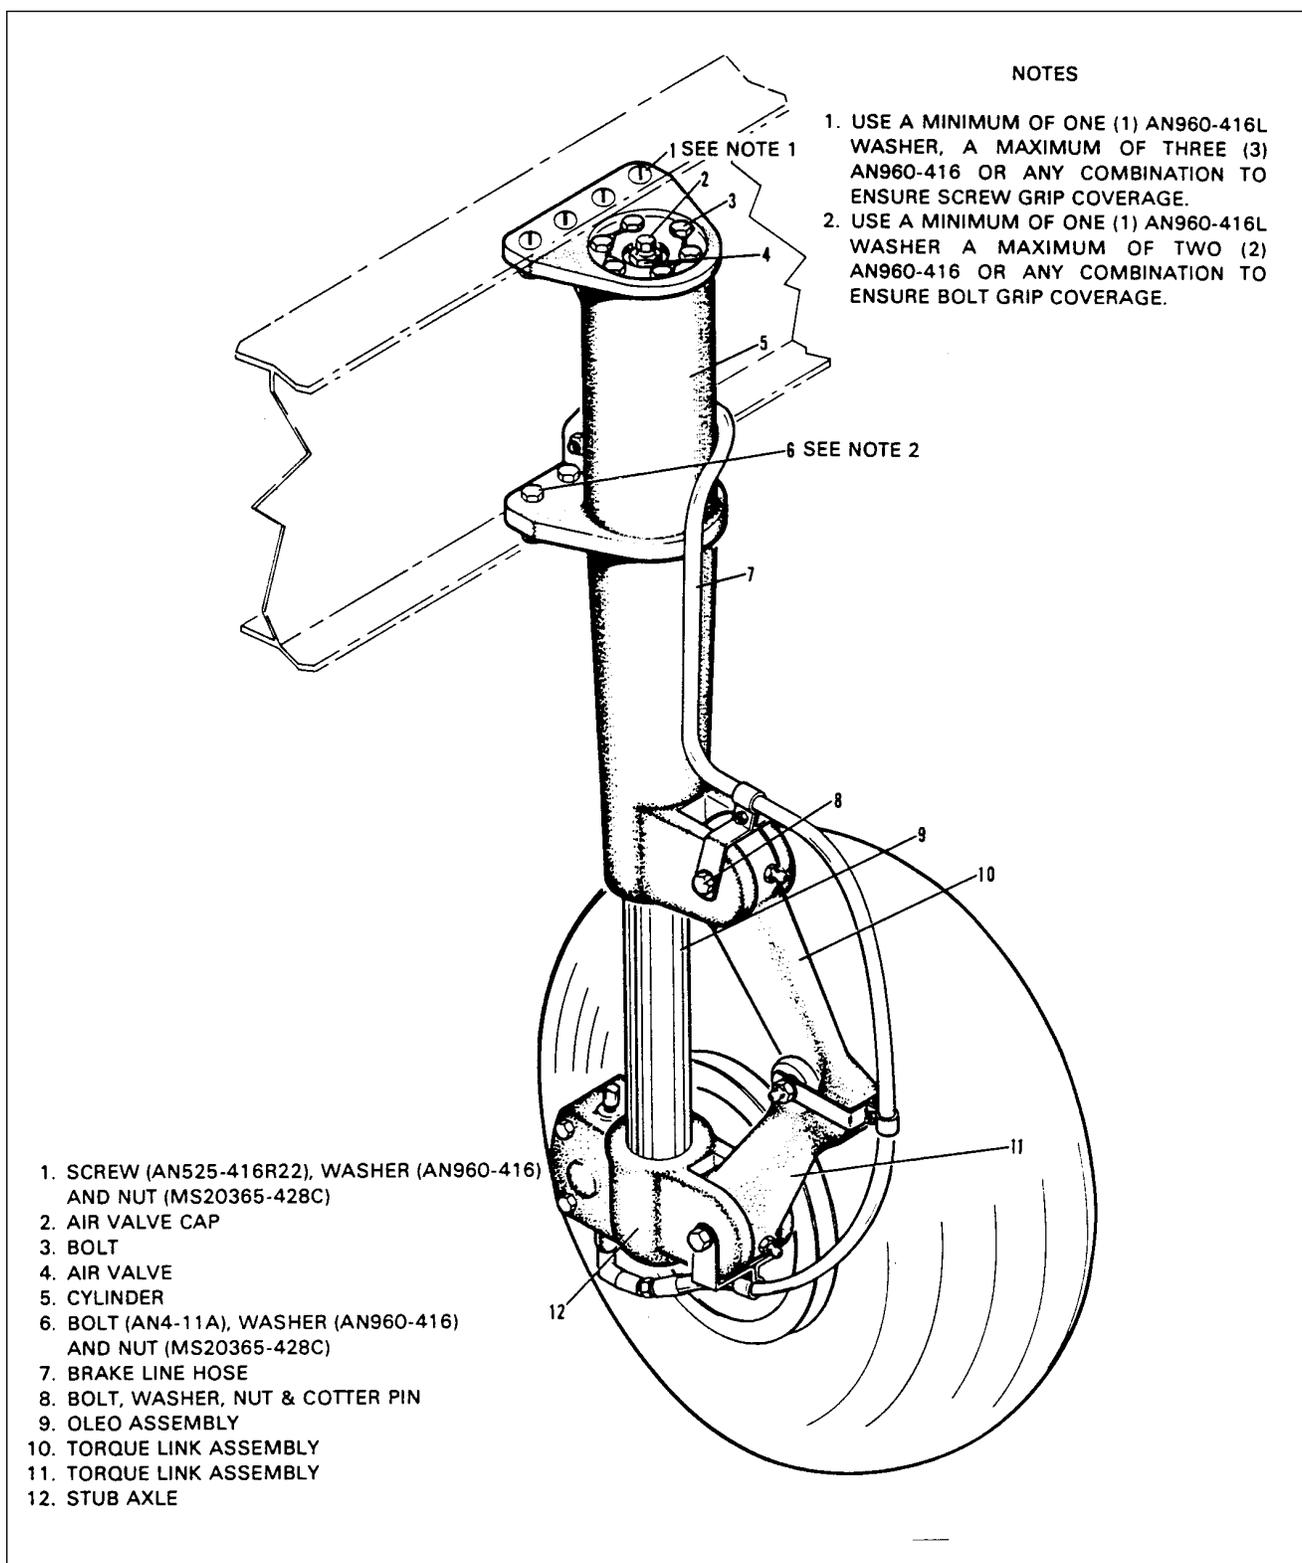

Figure 32-2. Main Gear Installation
**REMOVAL OF MAIN LANDING GEAR** (figure 32-2)
### **INSTALLATION OF MAIN LANDING GEAR (figure 32-2)**